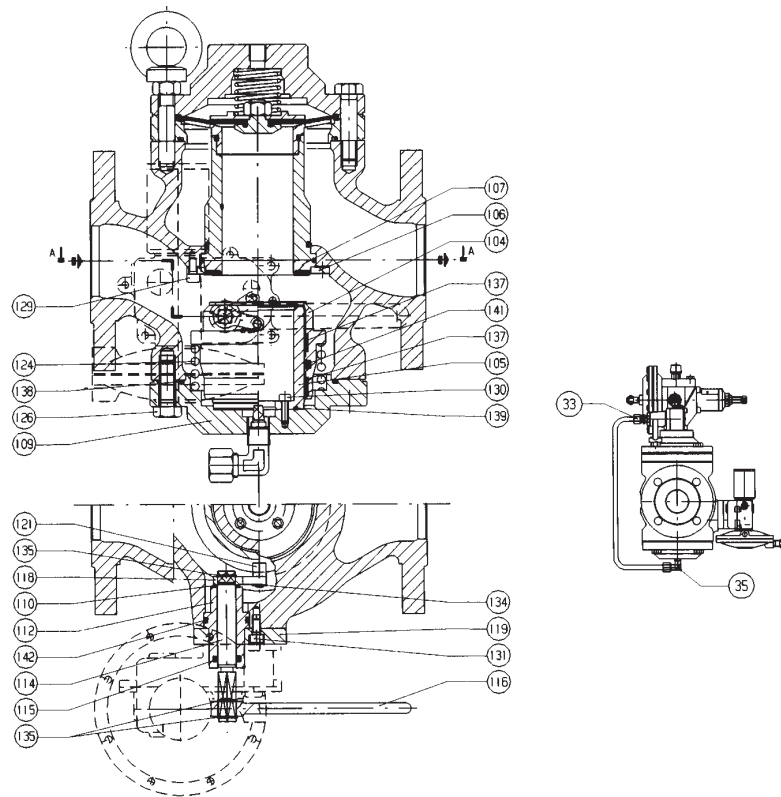

Fig. 26
6.3 TAB. 16 SAV VB/93 (ABB. 26)
6.3 TAB. 16 SECURITE VB/93 (FIG. 26)
SICHERHEITSABSPERRVENTIL VB/93 (ABB. 26)
VANNE DE SECURITE VB/93 (FIG. 26)